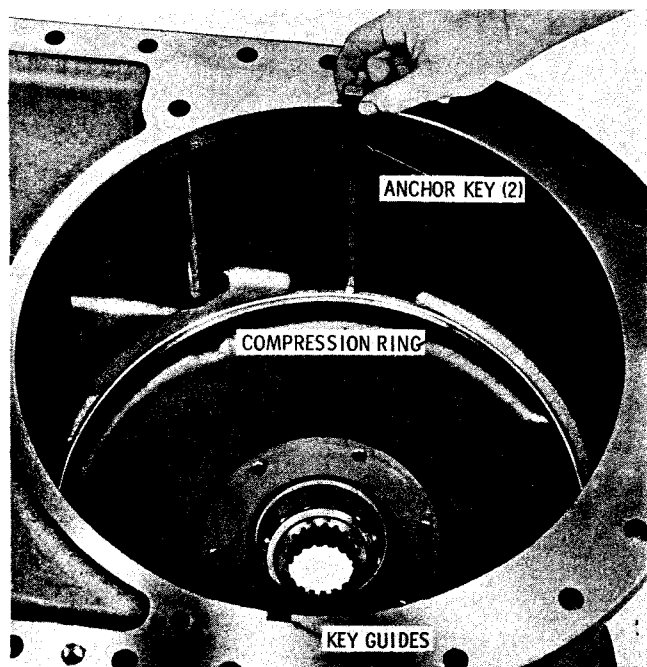

Fig. 5-76. Removing clutch anchor keys
(14) Remove two clutch anchor keys from the transmission housing key guides (fig. 5-76). Remove the compression ring from the transmission housing.